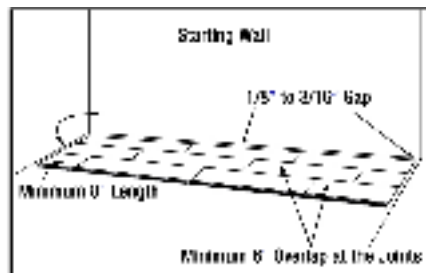

Fig. 3 Stagger end joints by 6", cut pieces at ends of row should be 8" or greater.
- Start the second row on the left side with a piece cut to about 2/3 the length of the starting plank in the first row. It is important to keep the end joints staggered a minimum of 6" in adjacent rows (Fig. 3). Both the long side edges and the short ends of planks should be neatly butted against adjoining planks and those in adjacent rows. Use one hand to hold the plank, and the other hand to guide the edges into place by lowering the plank as you go. It's important to butt the edges together neatly. Press into place or use a hand roller to obtain adhesion. If the joints are not tight, pull up the plank and reposition it immediately.